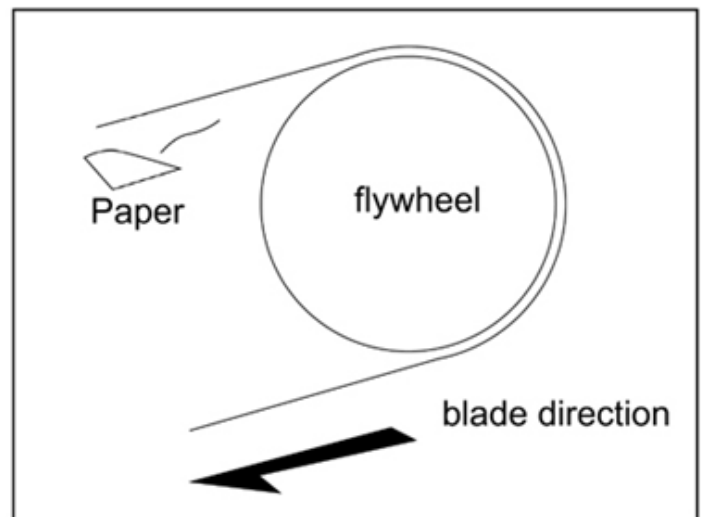

Figure 11: Blade Tracking Adjustments.
1. Use a piece of scrap paper and slide it between the blade and the wheel while it is running see figure 11.